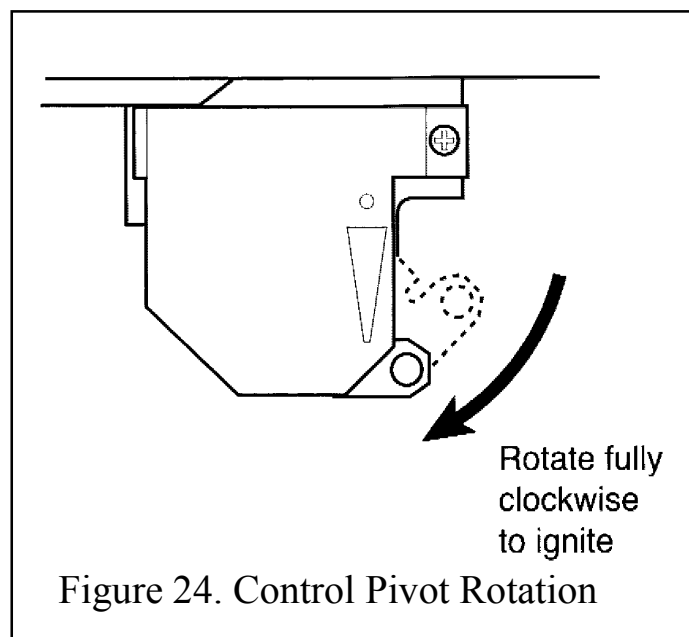

Figure 24. Control Pivot Rotation
2. Rotate the control pivot bracket clockwise as far as it will go and hold in this position (See figure 24). This should close the ignition circuit and simultaneously open the gas tap allowing the gas to flow to the pilot. Wait a few seconds while the air is purged. The electronically generated sparks should light the pilot. The pilot should then light the main burner at its low setting. There may be a delay of up to four seconds between the pilot lighting and ignition of the gas at the main burner. This is normal and is due to the time required to fill the main burner compartment with sufficient gas for ignition.